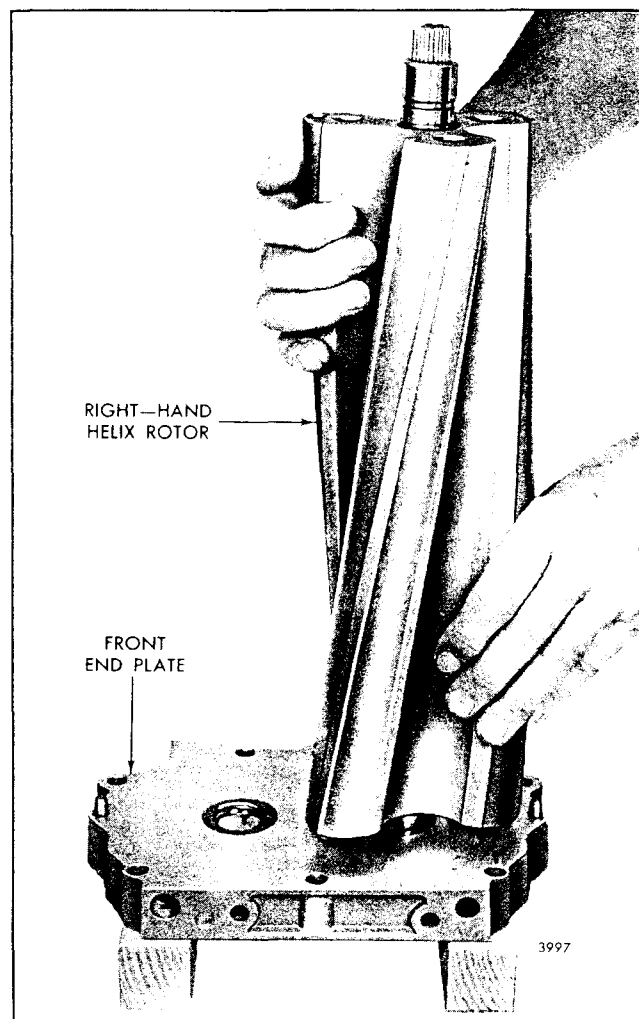
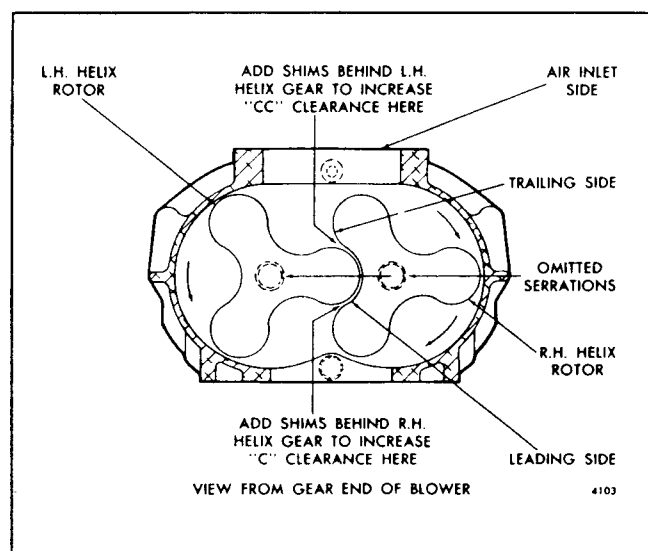

Fig. 14 - Installing Blower Rotor in Front End Plate
Fig. 20 - Diagram Showing Proper Location of Shims for Correct Rotor Lobe Clearances
The rotors must be assembled in the blower housing with the omitted serrations in the rotor shafts aligned as shown in Fig. 20.
- b. Hold the right-hand helix rotor in a vertical position, gear end up, with the omitted serration in the splines of the shaft facing to the right as shown in Fig. 20. Then start the end of the shaft straight into the oil seal in the right-hand shaft opening in the end plate as shown in Fig. 14 and lower it until the lobes of the rotor contact the end plate.
- b. Rotate the rotors to bring the omitted serrations on the shafts in alignment and facing to the right (Fig. 20).